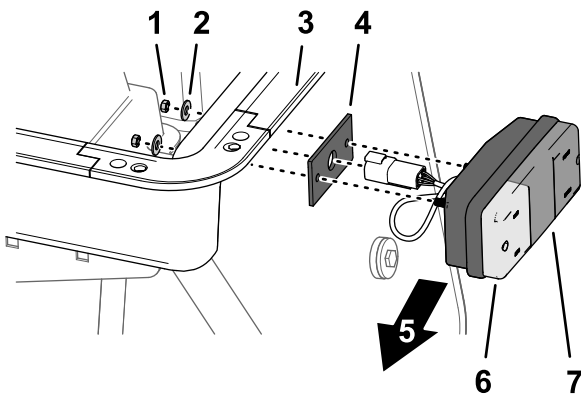

**Figure 33**
1. At the front of the headliner, remove the 2 carriage bolts (#10 x 5/8 inch), 2 washers (#10), and 2 flange locknuts (#10) that secure the front light cover and seal to the headliner, and remove the cover and seal (Figure 33).
1. At the back of the headliner, remove the 2 carriage bolts (#10 x 5/8 inch), 2 washers (#10), and 2 flange locknut (#10) that secure the rear light cover and seal to the headliner, and remove the cover and seal (Figure 33).